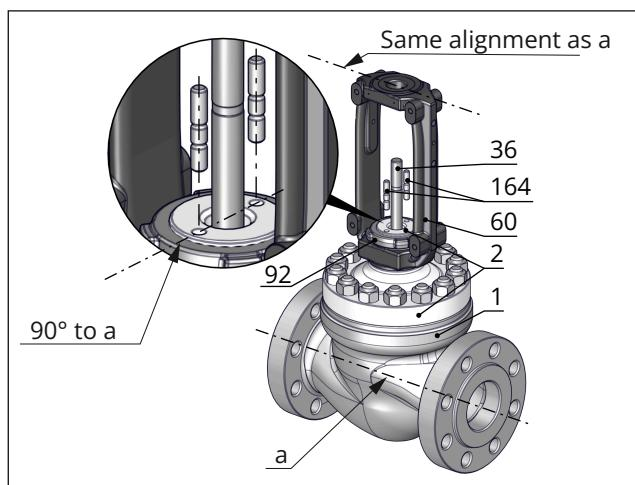

Fig. 26: Alignment of bonnet on the valve body and alignment of yoke on the bonnet
- Fasten the travel indicator scale (84) with hanger (83) and warning label (255), if applicable, to the yoke using the screws (82). While fastening it, position the travel indicator scale (84) on the hanger (83) according to Table 8.
- Screw tight the holder (302) using the screws (306) and washers (308). Observe the tightening torques specified in Table 7.
4. Place the yoke (3) on the bonnet in such a way that the two holes on the top of the bonnet are aligned with the open sides of the yoke (see Fig. 26).
5. Fasten the yoke (3) using the castellated nut (92).
- a) Place the packing flange (162) over the studs (164) of the valve bonnet (2/21) on the packing follower (8).
- b) Thread the two packing nuts (163) (including disk springs when packing flange is loaded by external spring elements) onto the studs (164) and finger-tighten them. In the version with spring-loaded packing, the packing nuts (163) must be guided through the holes in the packing flange.